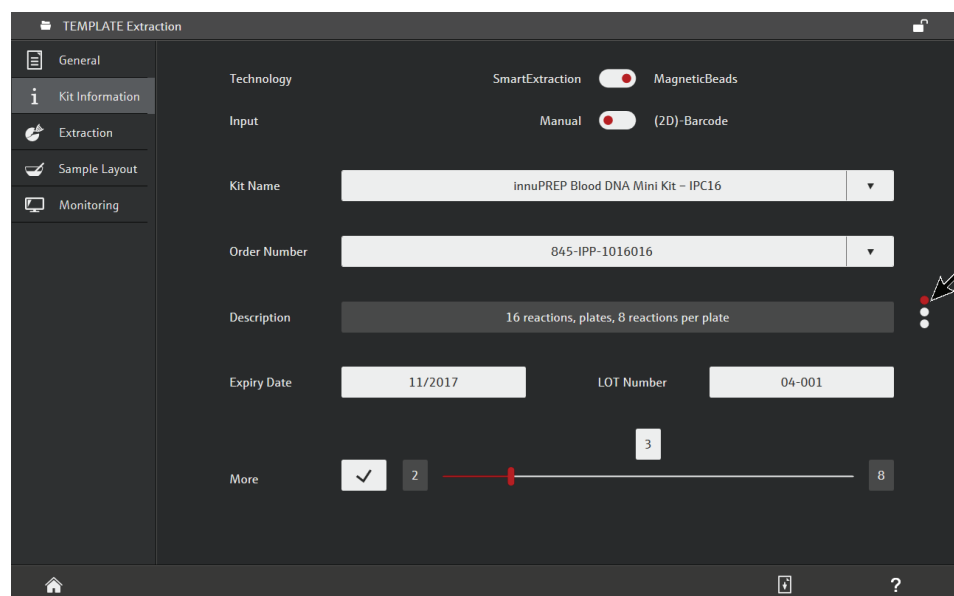

Fig. 13 KIT INFORMATION page with 3 different kits
- ✓ A column of dots (arrow in Fig. 13) appears next to the DESCRIPTION field. The dots symbolize the order of the kits starting with the uppermost. The active kit is displayed in red.